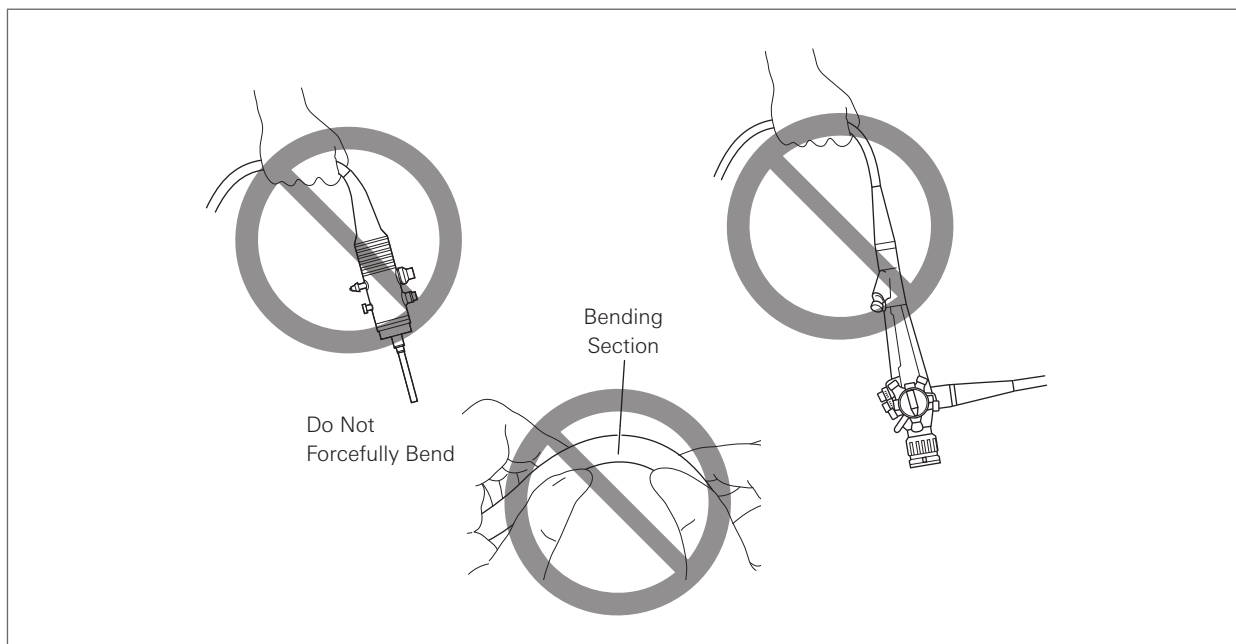

Figure 3.3
- When carrying the fiberscope, do NOT grasp or carry it only by its umbilical cable or insertion portion. Moreover, do NOT squeeze or forcefully bend the bending section. (Figure 3.3) Doing so may result in equipment damage.